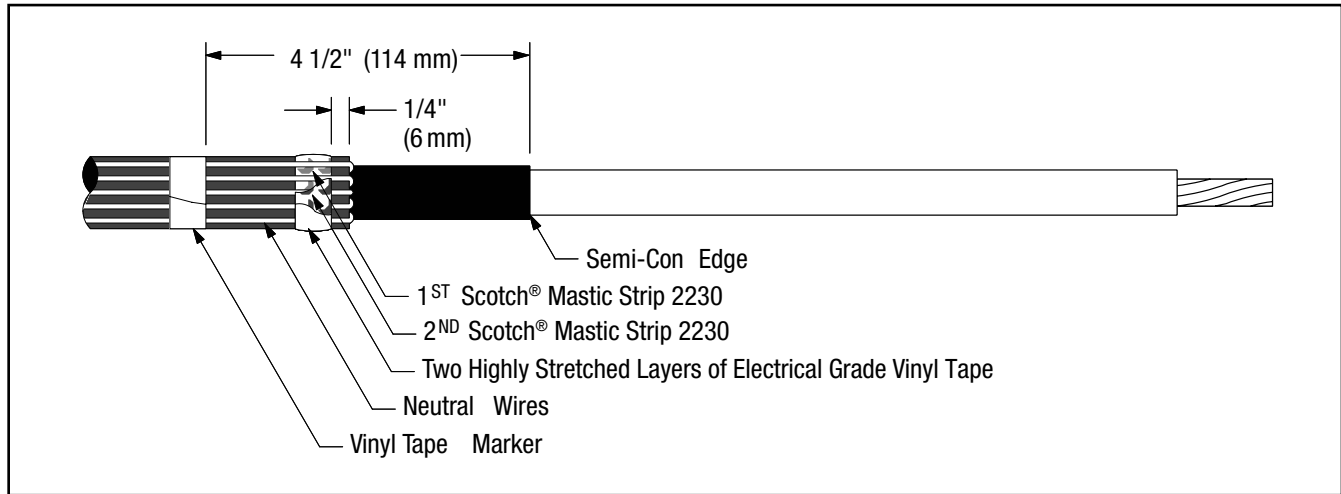

Figure 3
2.5 Bend neutral wires back over applied sealing mastic and secure to cable jacket 4 1/2" (114 mm), below cable semi-con edge using vinyl tape (Figure 3).
2.6 Select second Scotch® Mastic Strip 2230 from kit and remove white release liners. Apply a second **SINGLE WRAP** of mastic over the neutral wires and previously applied mastic (Figure 3). Cut off excess.
2.7 Compress neutral wires into Scotch® Mastic Strip 2230 by over-wrapping seal strips with two highly stretched layers of electrical grade vinyl tape (Figure 3). **Be sure to cover all exposed mastic.**